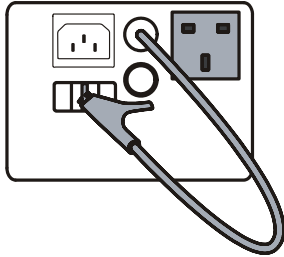

Figure 3. Bond Zero Connections
-  Attach the crocodile clip to the test lead and insert the test lead plug into the BOND 25A/200mA socket, see Figure 3.